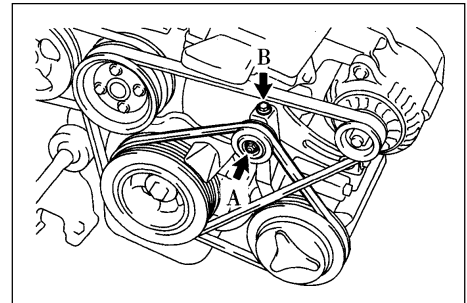

Figure 1-10
2. Remove the V-belt (from the air conditioner compressor to the crankshaft sheave (see Figure 1-10).
6. Mount No.1 V-belt (from the air conditioner compressor to the crankshaft sheave). (See Figure 1-10).